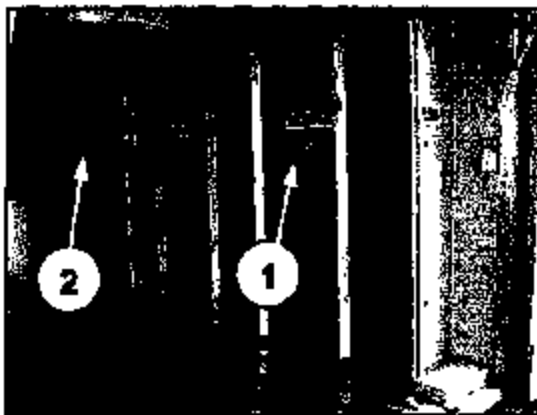

Figure 1: C2045 main junction box
- 1) Open the main junction box door giving access to the "Basic Electric" compartment (see 1, Figure 1).
- 1) Open the main junction box door giving access to the "Electronics" compartment (see 2, Figure 1).